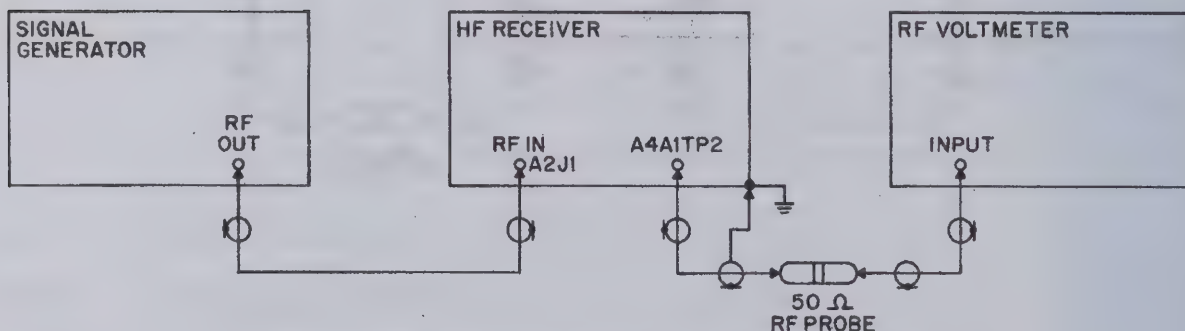

Figure 4-20. 10.7 MHz Filter Switch Adjustment, Test Setup
2. Connect the test equipment as shown in Figure 4-20. Set the Generator for 10.700 MHz, unmodulated, at -50 dBm.